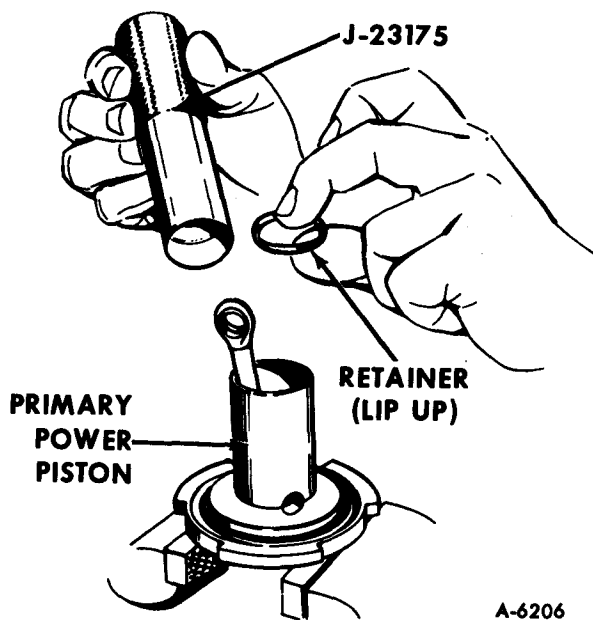

Figure 17—Removing Retaining Ring Front Air Valve
16. Using snap ring pliers J-4880, remove the retaining ring from the air valve (figure 17).
6. Using Snap Ring Pliers J-4880, place the retaining ring into the groove in the air valve (figure 17).